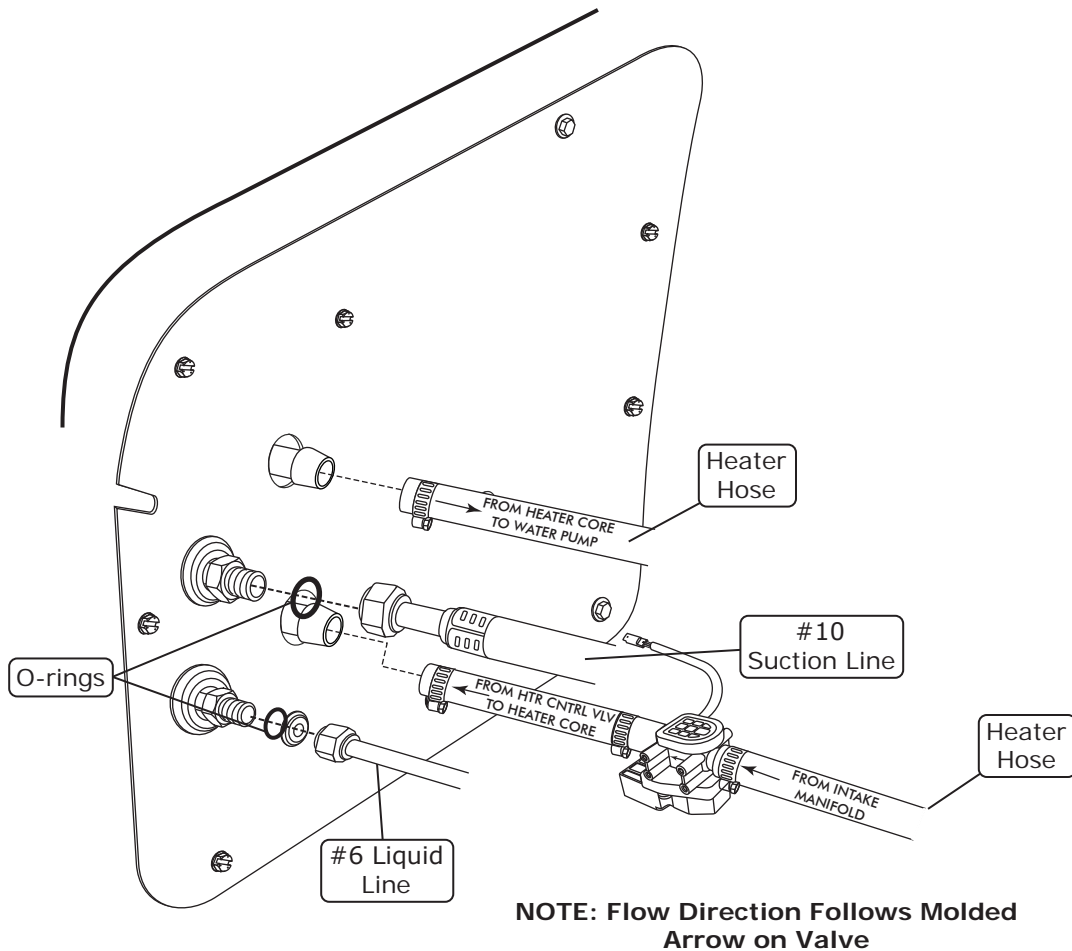

Figure 1
1. Route the heater hose (not included) from the water pump to the heater line coming through the firewall as shown in Figure 1, below. Secure using hose clamps. **NOTE: A small amount of silicone spray will ease the heater hose installation.**
2. Route a second heater hose (not included) from the intake to the heater line coming through the firewall as shown in Figure 1, below. **NOTE: Install the heater control valve in line with the intake manifold (pressure side) heater hose.** Secure using hose clamps as shown in Figure 1, below. Note proper flow direction.